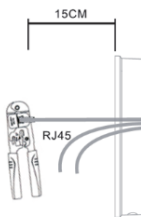

Figure 3-5
B. Pass all the wires through the silicone plug in the middle of the bottom case, and reserve a length of 15~20CM for all wires, as shown in Figure 3-5.